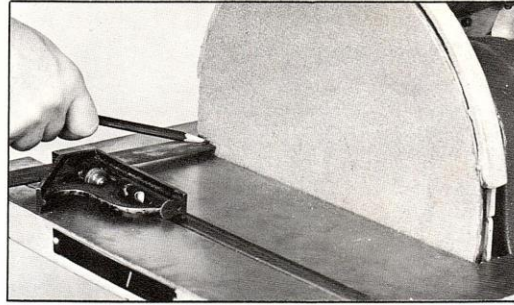

Fig. 19.
1. Check to see if the miter gage slot is parallel with the sanding disc by placing a square in the miter gage slot with one end of the square against the sanding disc, as shown in Fig. 19.
2. Using a pencil, make a mark on the sanding disc where the square contacts the disc, as shown in Fig. 19.